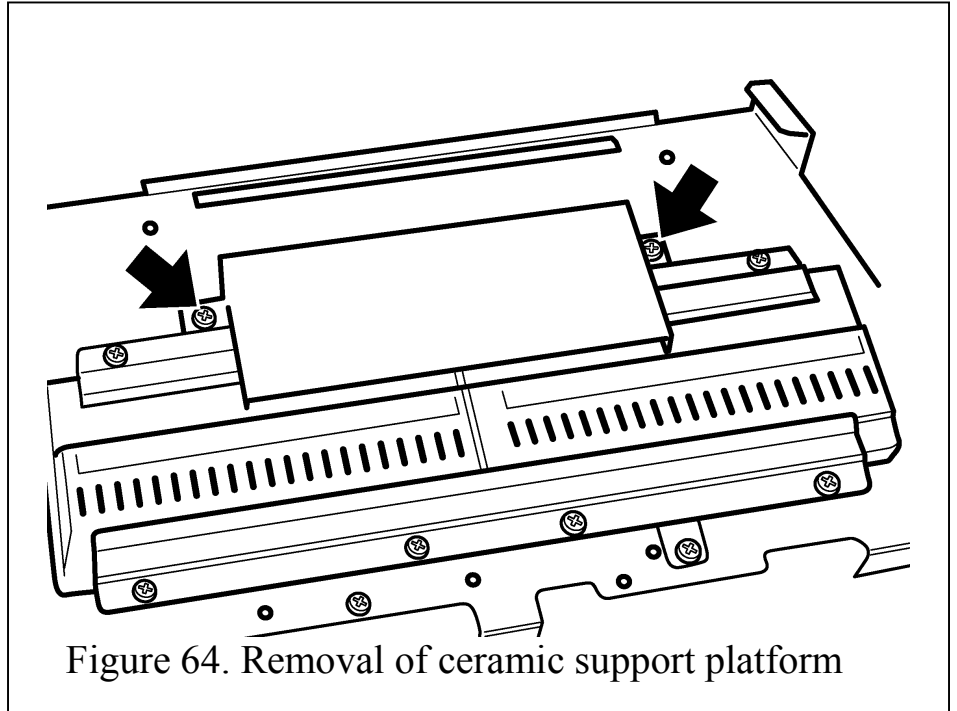

Figure 64. Removal of ceramic support platform
4. Remove the ceramic support platform by detaching 2 screws (See figure 64